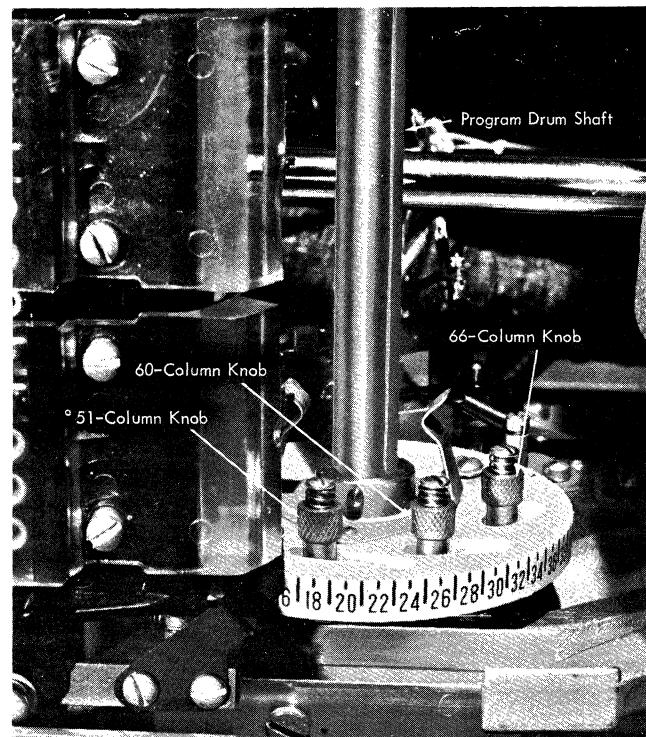

Figure 22. Program Cam Extension Knobs
4. The following settings are necessary whether or not a program drum is used. To set program cam extension knobs, lift the program drum cover forward, turn the program control lever to raise the program drum starwheels, and lift the drum off its shaft (Figure 22). Space to column 16 on the column indicator and turn off the main line switch.